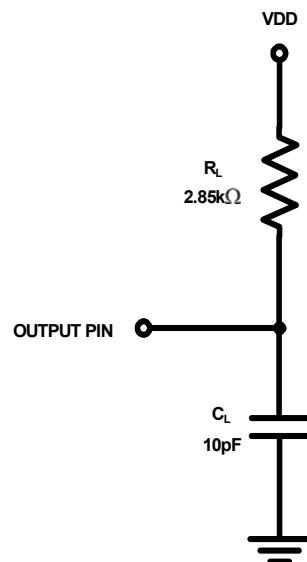

FIGURE 4. EQUIVALENT LOAD CIRCUIT
14. During characterization, $t_{DISABLE}$ is measured from the release point with a $10pF$ load (see Figure 4).